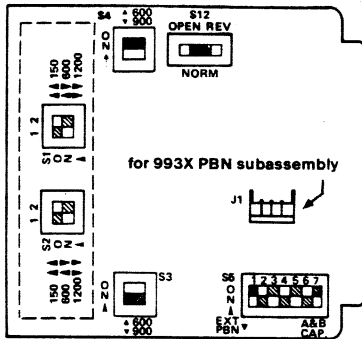

figure 3. 4024B
3.07 Optioning the 4024B module consists of selecting the terminating impedance at both 4wire ports and at the 2wire port, conditioning the module for use with its internal compromise balance network or with an external PBN, including or excluding the A&B-lead filter capacitor, and selecting normal or reverse operation for the A&B leads. Locations of the option switches on the 4024B's printed circuit board are shown in figure 3. Table 4 provides a brief explanation of the function and settings of each option switch, along with a convenient option checklist. The checklist can be filled out (by checking the appropriate box for each switch) either prior to installation to allow for prescription optioning of the module or as the module is being optioned to provide a record for future reference. Detailed instructions for optioning the 4024B are provided in paragraphs 3.08 through 3.13.